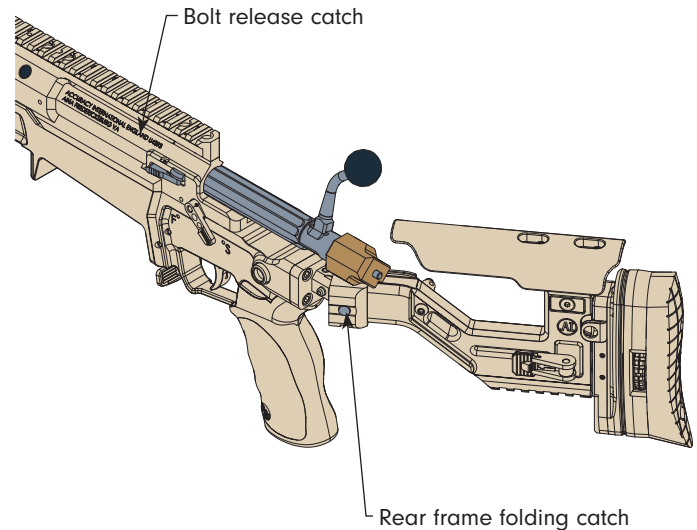

Fig 3-3
- Partly fold the rear frame, as shown in Fig 3-3.
- Partly fold the rear frame as shown in Fig 3-3.